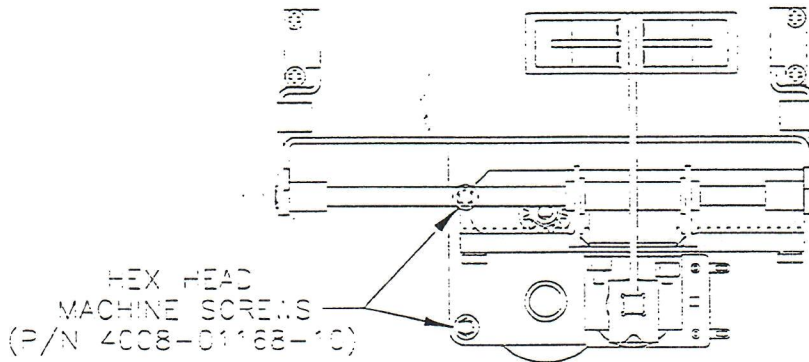

FIGURE 4
1. Remove the four MACHINE SCREWS (P/N 4006-01113-06) that secure the MINI PLAYFIELD GUARD (P/N 03-9229) (See Fig.4). Note: There are two screws on each side of the guard. Remove the mini playfield guard.
4. Slide COIL/SLIDE ASSEMBLY all the way to the right hand side of the MINI PLAYFIELD ASSEMBLY. Also do this manually. You will see two(2) more HEX HEAD MACHINE SCREWS (P/N 4008-01168-10). Remove these two screws also, being careful as not to let the PINION/MOTOR ASSEMBLY (P/N A-19950) fall. Desolder the two motor wire leads. (See Fig. 4)